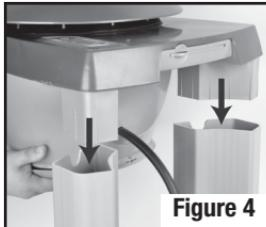

Figure 4
**3. Attach the Vacuum Head.** Align the left and right posts of the Vacuum Head Assembly into the Left and Right Upright Pedestals. Push down on Vacuum Head to secure (**Figure 4**).